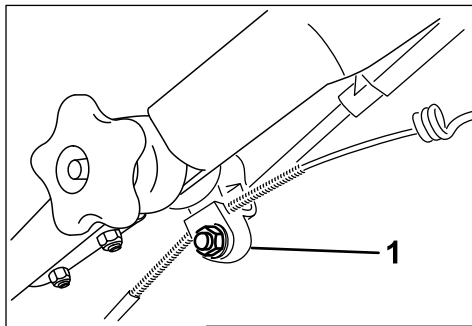

Figure 42
1. Loosen the nut on the cable mount (Figure 42).